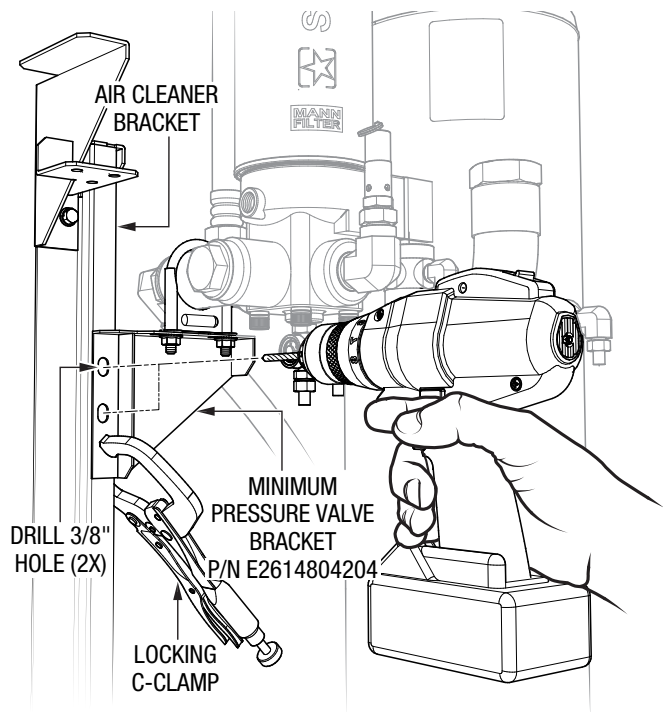

Figure 16. Temporarily Secure Bracket and Drill Holes
2. Use a locking C-clamp to temporarily secure the minimum pressure valve bracket (P/N E2614804204) to the air cleaner bracket. Make sure the minimum pressure valve bracket is straight and pressed flat against the air cleaner bracket. See Figure 16.
3. Using the holes in the minimum pressure valve bracket (P/N E2614804204) as a guide, drill two 3/8" holes into the air cleaner bracket. Clean out the new holes with compressed air. See Figure 16.